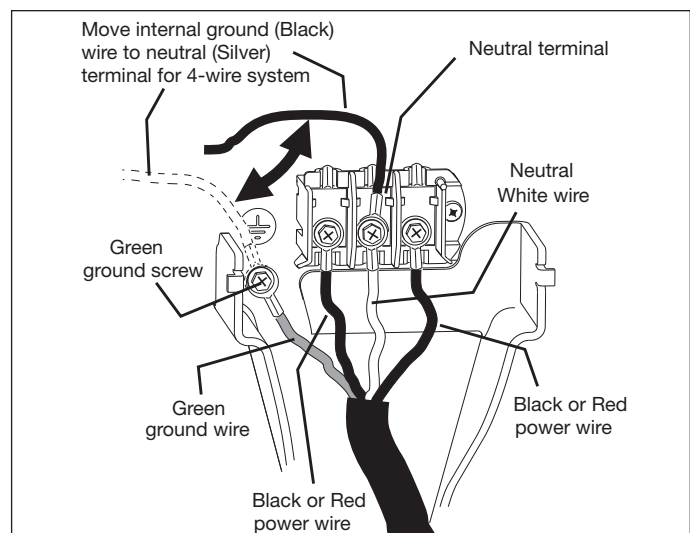

Figure 2-11.
5. Disconnect the internal (BLACK) dryer harness ground wire from the (GREEN) ground screw next to the terminal block. (See Figure 2-11)